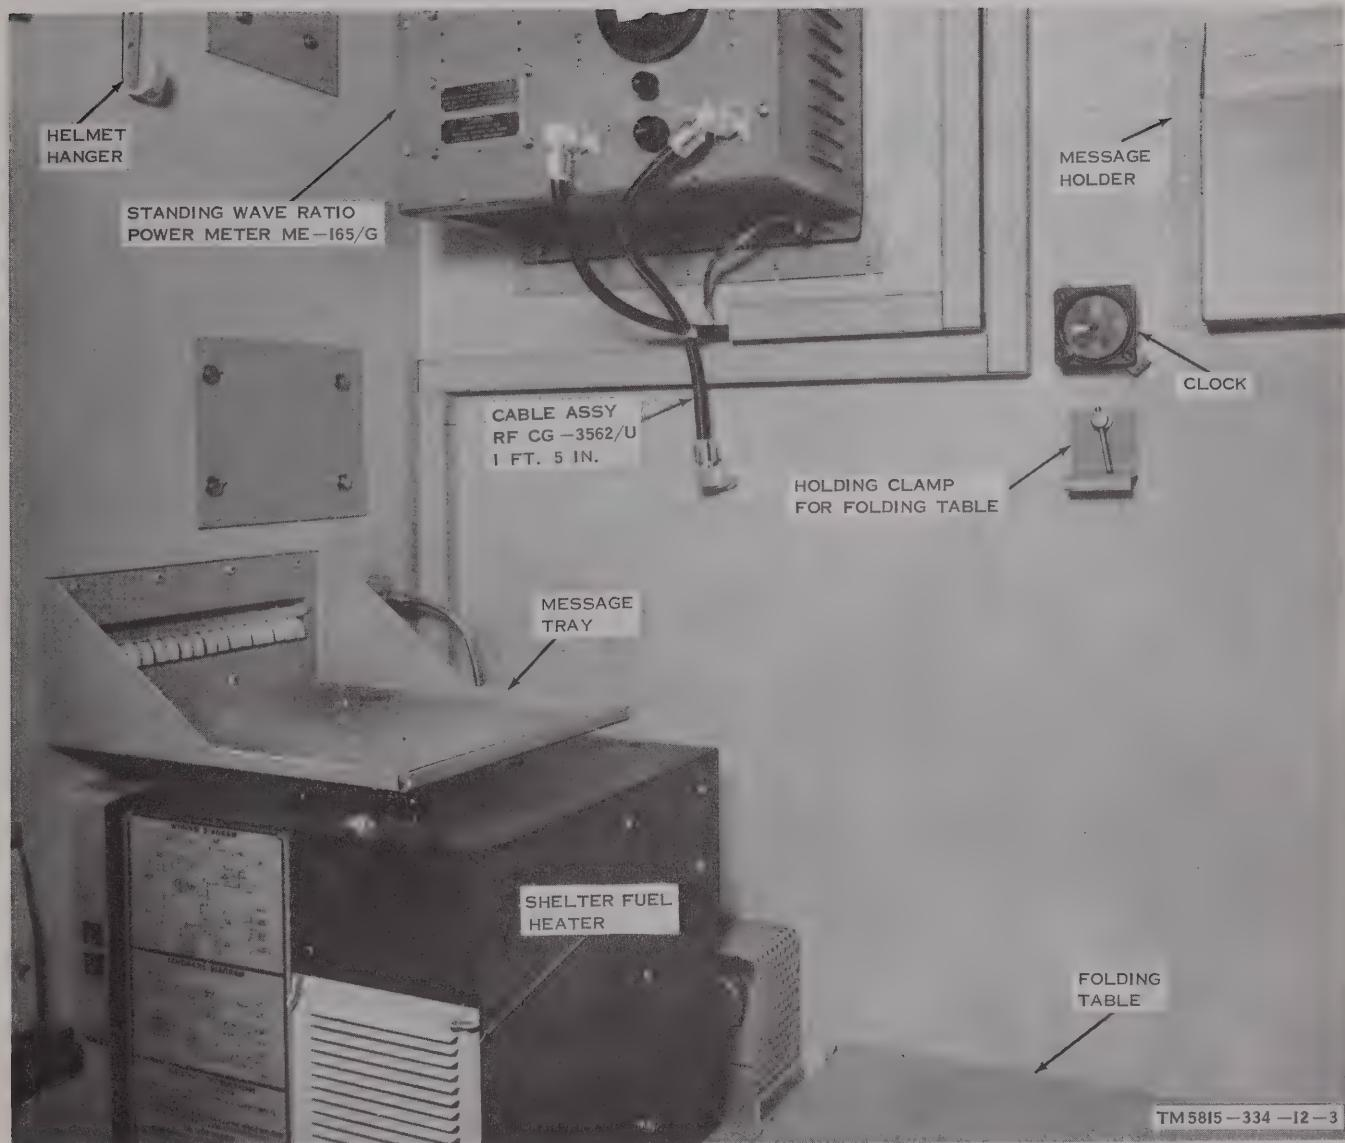

Figure 1-5. Radio Teletypewriter Set AN/GRC-142 or AN/GRC-122, shelter interior, rear roadside corner.
e. *Shelter Fuel Heater.* Two types of shelter heaters (figs. 1-5, 1-6, and 1-6.1) are used interchangeably in the AN/GRC-142(*) and AN/GRC-122(*). The heater is located in the interior rear roadside of the shelter. The heater will operate by using gasoline, kerosene, burner fuel, or jet fuel. A detailed description of the heater is contained in TM 5-4520-211-14 (Hupp) or TM 5-4520-236-14 (Hunter). Models not containing the air conditioner contain an additional electrical heater (Heater, Space, Electrical Ac, Electromode Model AAT15A FSN 4520-224-7909 or Valad Model P-15 FSN 4520-912-3502) for use during ac only operation. The Electromode heater is mounted on the shelf near the rear curbside corner of the shelter. The Valad heater is mounted on the floor near the cab end of the shelter.
o. Clock. An 8-day, luminous dial, 24-hour clock is mounted on the roadside wall (figs. 1-5 and 1-6). A knob on the left-hand side of the clock is used for winding and setting it.
q. Standing Wave Ratio—Power Meter ME-165/G. The ME-165/G (figs. 1-5 and 1-6) is